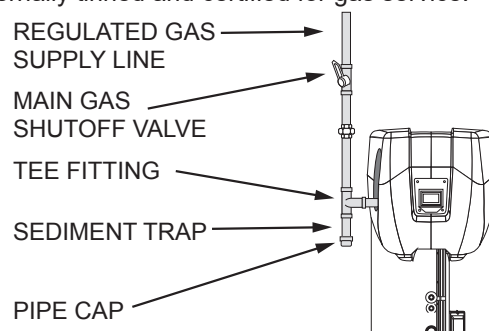

Figure 29. Supply Gas Line Installation
Ensure all gas pipe is clean on the inside before installation. To trap any dirt or foreign material in the gas supply line a sediment trap must be installed as shown in See **Figure 29**. The sediment trap must be readily accessible and not subject to freezing conditions. Install in accordance with the recommendations of the local gas utility company.
6. Install a sediment trap as shown in **Figure 29** (page 30).
7. Install a Main Gas Shutoff valve in the supply gas line as shown in **Figure 29** (page 30).
supply piping system during testing. See *Figure 29* (page 30). The gas supply line must be capped when disconnected from the water heater.